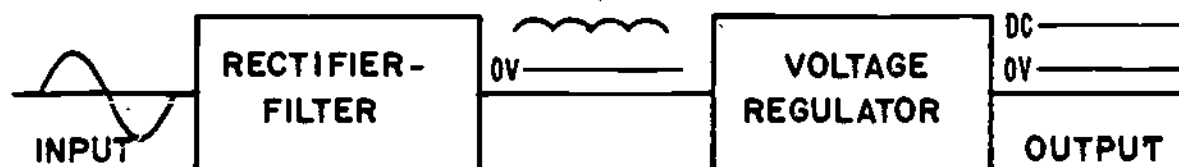

FIGURE 1
3. Voltage regulator circuits are additions to basic power supply circuits which are made up of rectifier and filter sections. The purpose of the voltage regulator is to provide an output voltage with little or no variation. Regulator circuits sense changes in output voltages and compensate for the changes. Regulators that maintain voltages within plus or minus (\pm) 0.1% are quite common. The diagram in Figure 1 illustrates pictorially the purpose of the voltage regulator.